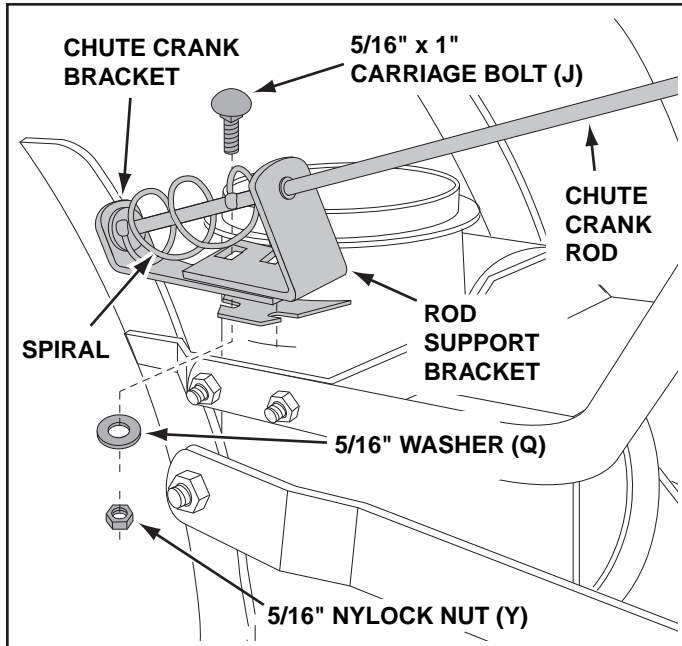
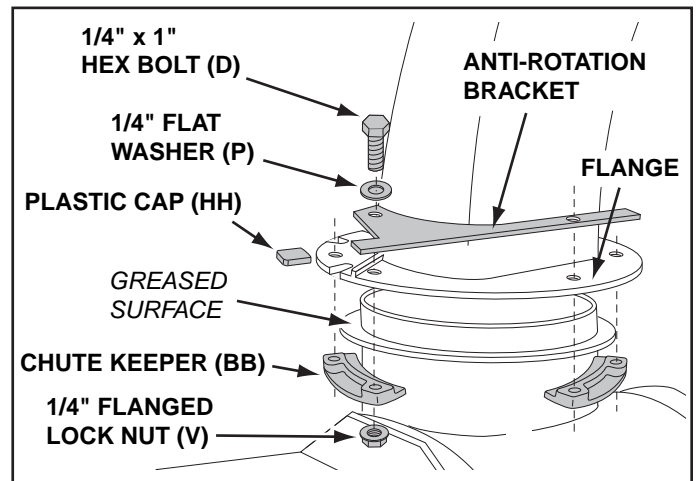

FIGURE 51
FIGURE 52
STEP 52: (SEE FIGURE 51)
- Attach the chute crank rod assembly brackets to the plastic bracket on the left side of the discharge housing. Align the chute crank bracket beneath the rod support bracket and assemble both to the plastic bracket using two 5/16" x 1" carriage bolts (J), 5/16" washers (Q) and 5/16" Nylock nuts (Y). **Do not tighten yet.**
STEP 53: (SEE FIGURE 52)
- Place the discharge chute (facing forward) onto the ring. Place the anti-rotation bracket on top of the chute flange, aligning it with the holes on the right hand side of the flange. Attach the three chute keepers (BB) (right side up as shown) to the bottom of the flange using six 1/4" x 1" hex bolts (D), 1/4" flat washers (P) and 1/4" flanged lock nuts (V). **Tighten carefully** so that the nuts are snug but do not dig into the plastic chute keepers.
- Place the plastic cap (HH) onto the short end of the anti-rotation bracket.
- Position the crank rod spiral (see figure 51) so that it does not rub against the bottoms of the notches in the chute flange. **Tighten** the nuts.
- Secure the control cables to the crank rod support tube using a nylon tie (II).